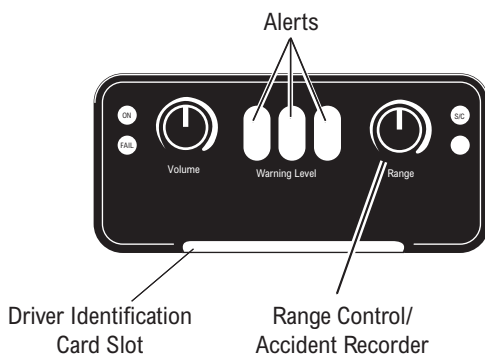

Figure 11
The Accident Recorder can store two segments of system data in the system's non-volatile memory. The first of the two segments may be stored by pushing and holding the "RANGE" knob on the Driver Display Unit for approximately five (5) seconds. Within six (6) seconds, the green "S/C" light will blink eight times, confirming storage of the data (see Figure 11). Subsequent pushing of the "RANGE" knob will cause the system to respond with a "FAIL" tone. After the first segment is frozen, the second segment runs continuously recording system data until the system is powered down.